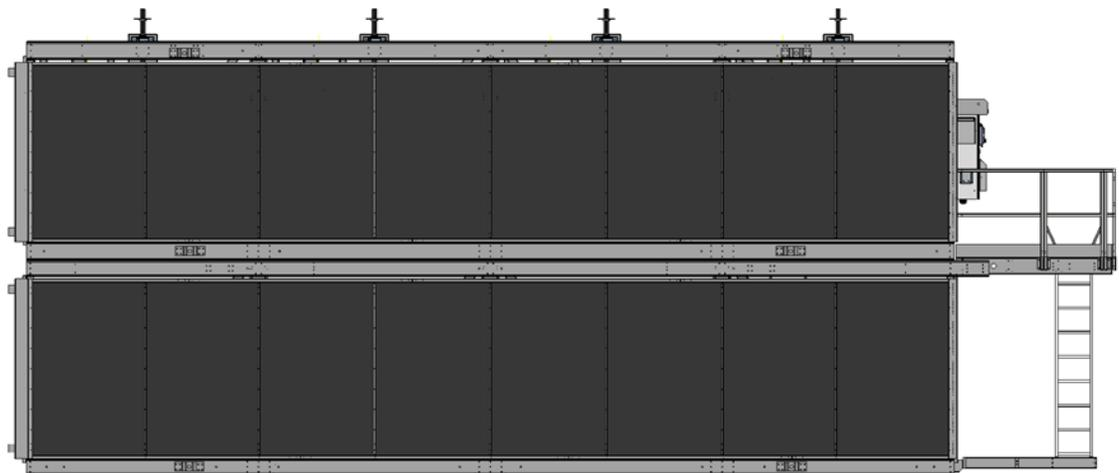
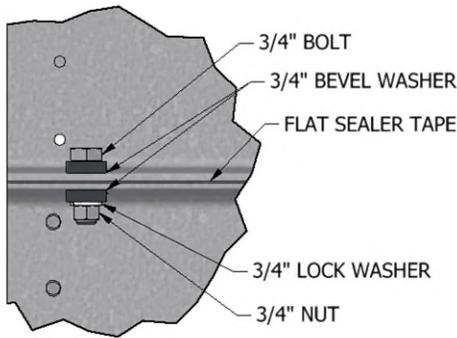

Figure 11. Section Assembly
Figure 12. Detail A, Section Assembly
An illustration of the unit with the upper and lower sections in place is shown in **Figure 11**.
6. Bolt the upper section in place. Refer to **Figure 11** and **Figure 12** for bolting locations and hardware type.